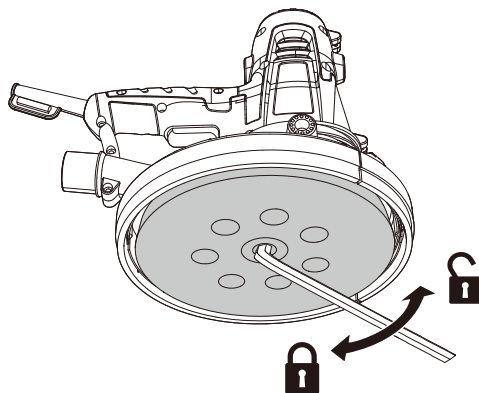

Figure 6
5. REMOVING THE BASE PAD (SEE FIG. 6)